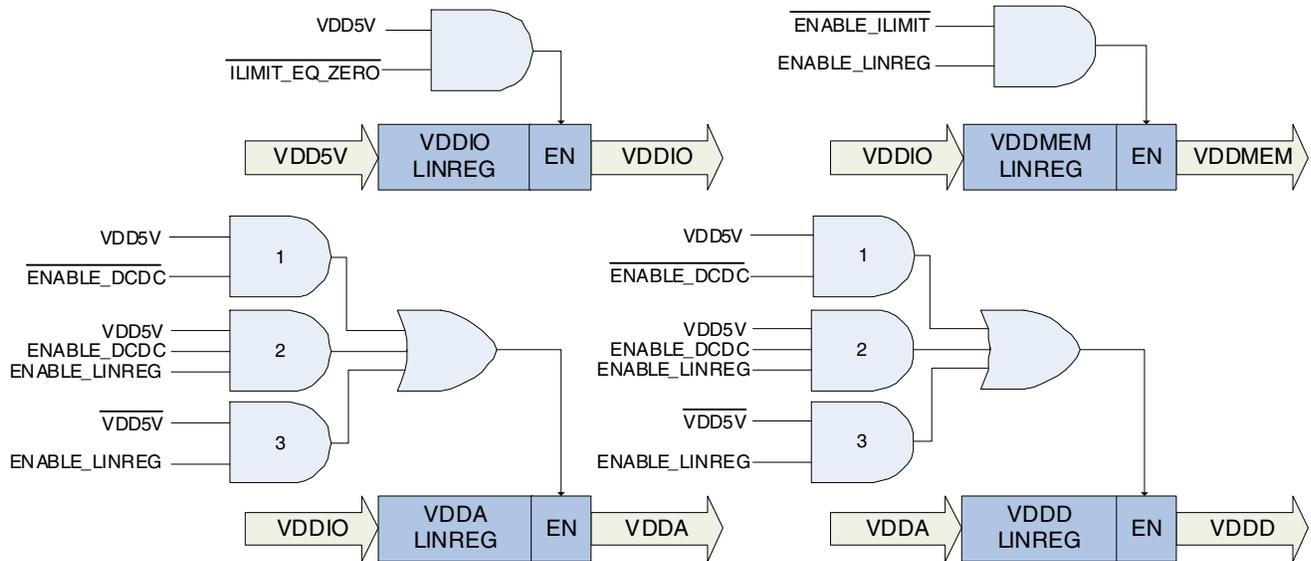

Figure 4. Enable Logic for Linear Regulators
The VDDD, VDDA, VDDIO and VDDMEM rails can be powered from LinRegs. For VDDIO, the LinReg can only be enabled when 5 V is present. Additionally, the 5 V current limiter must be disabled for VDDIO to operate. For VDDD and VDDA, the rail’s LinReg is enabled with particular combinations of 5 V status, ENABLE_DCDC status and the rail’s LinReg enable bit. VDDMEM only requires its enable bit to be set. Figure 4 shows each LinReg power source and enable logic.
The first combination is the default configuration when the device is powered on by 5 V. In this case, indicated by AND-gate 1 in Figure 4, ENABLE_DCDC is false and 5 V is present. This means the presence of 5 V can activate or deactivate the rail’s LinReg without any software interaction.
In the second case, AND-gate 2 in Figure 4, the LinReg is activated when 5 V is present, ENABLE_DCDC is true, and ENABLE_LINREG is true. The DC-DC is active because ENABLE_DCDC is true. When 5 V is present and ENABLE_DCDC is true, the ENABLE_LINREG bit for the rail must be set to activate the LinReg.
The third case occurs when 5 V is not present and is indicated by AND-gate 3 in Figure 4. In this scenario, the VDDD and VDDA LinReg are enabled by simply setting ENABLE_LINREG.
1. Determine the logic that enables the LinReg. See Figure 4 for each LinReg's requirement. 5 V is present in this example.